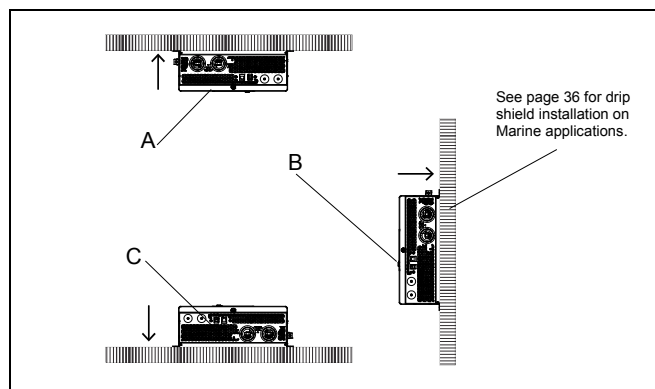

Figure 2 Approved Mounting Orientations
2. Select an appropriate mounting location and orientation. (See Figure 2 below.) To meet regulatory requirements, for use in on-land applications, the Freedom XC must be mounted in one of the following orientations: